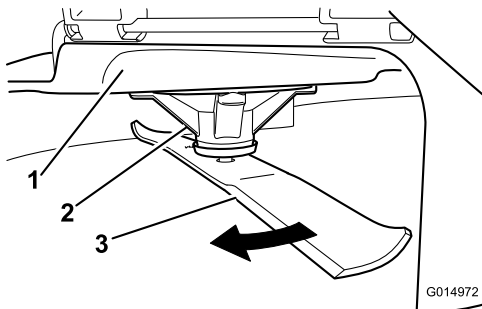

Figure 48
2. While wearing thickly padded gloves, or other adequate hand protection, slowly rotate the blade to be measured into a position that allows you to effectively measure the distance between the cutting edge and the level surface that the machine is on (Figure 48).